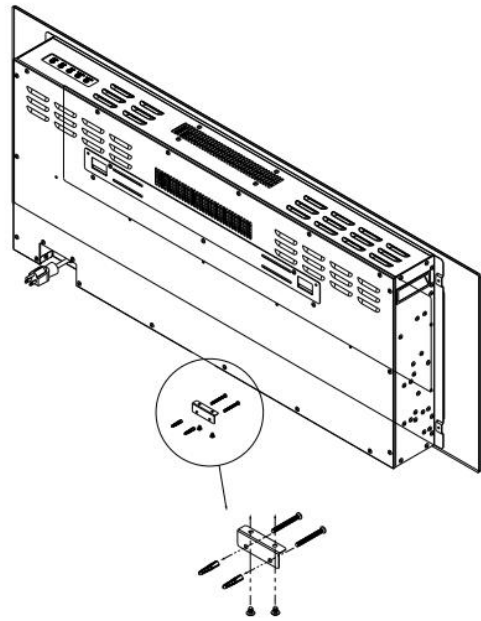

Fig.4
- Fasten the small bottom bracket one end on wall with 2 pcs of 6*25mm screws and the other end on appliance with 2 pcs of 4*8mm screws.(See Fig.4)